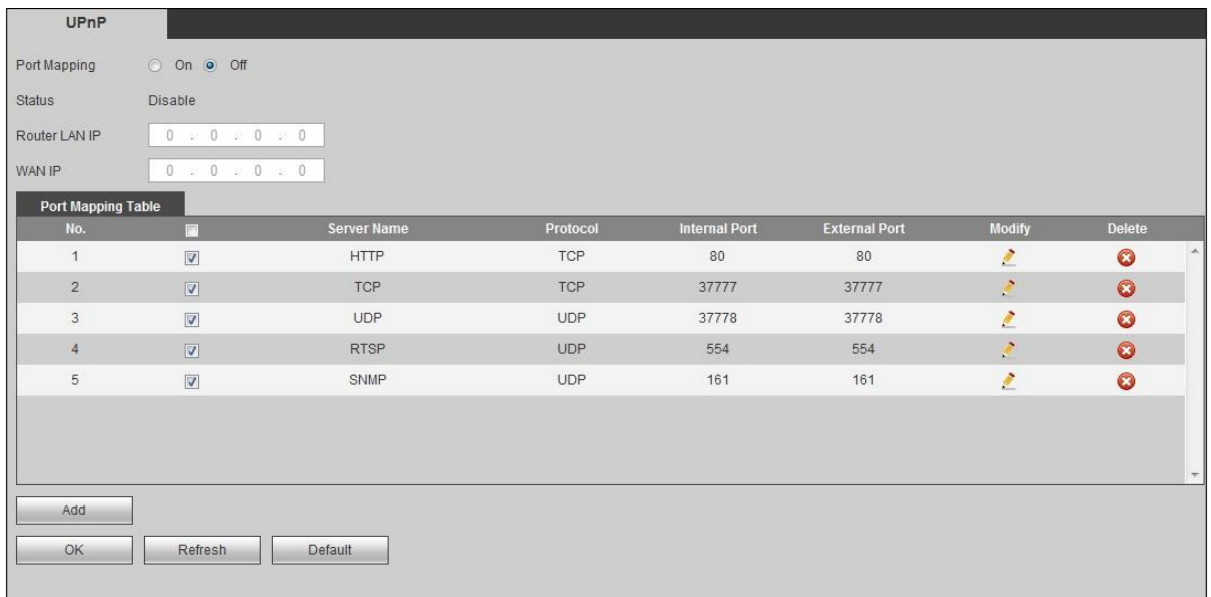

Figure 4-52
Step 1 Select "Setup>Network> UPnP". The system displays "UPnP" interface, as shown in Figure 4-52.